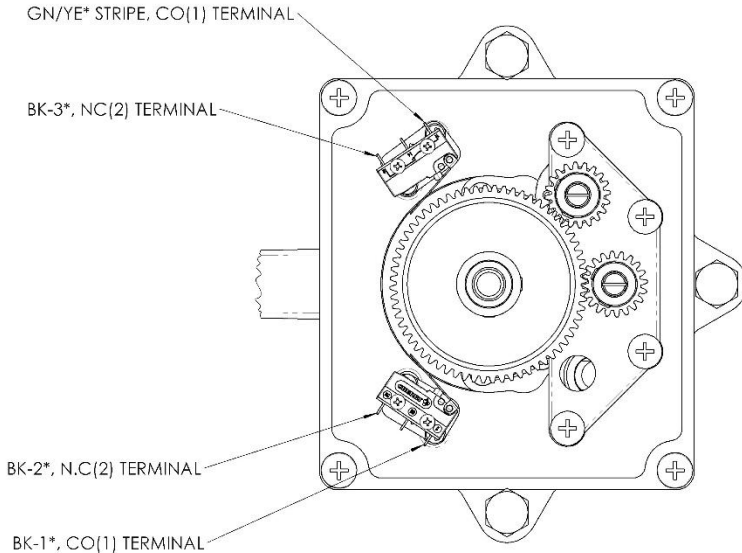

Figure 15: Default factory wiring diagram of new microswitches, 7163-B shown.
- a. The actuation lever of microswitch ② is clear of any obstructions through its range of motion.
- b. The microswitch ② actuation lever is depressed enough to actuate the switch contacts when the RFU is at its limit. This can be done by checking for no continuity across the Normally Closed(N.C) terminal 2 and the Common(C) terminal 1. See Figure 15 for clarity on terminals being checked. When the switch is depressed, terminal 1 and 2 should have no continuity.
- c. The microswitch ② lever is raised enough to let the switch go to its normally closed position when the RFU is not at its limit. This can be done by checking for a closed circuit (continuity) across the Normally Closed and Common terminals. When the RFU lever is off its limit position, there should be continuity across terminal 1 and 2.
- b. For reference the default factory wiring is given in Figure 15.